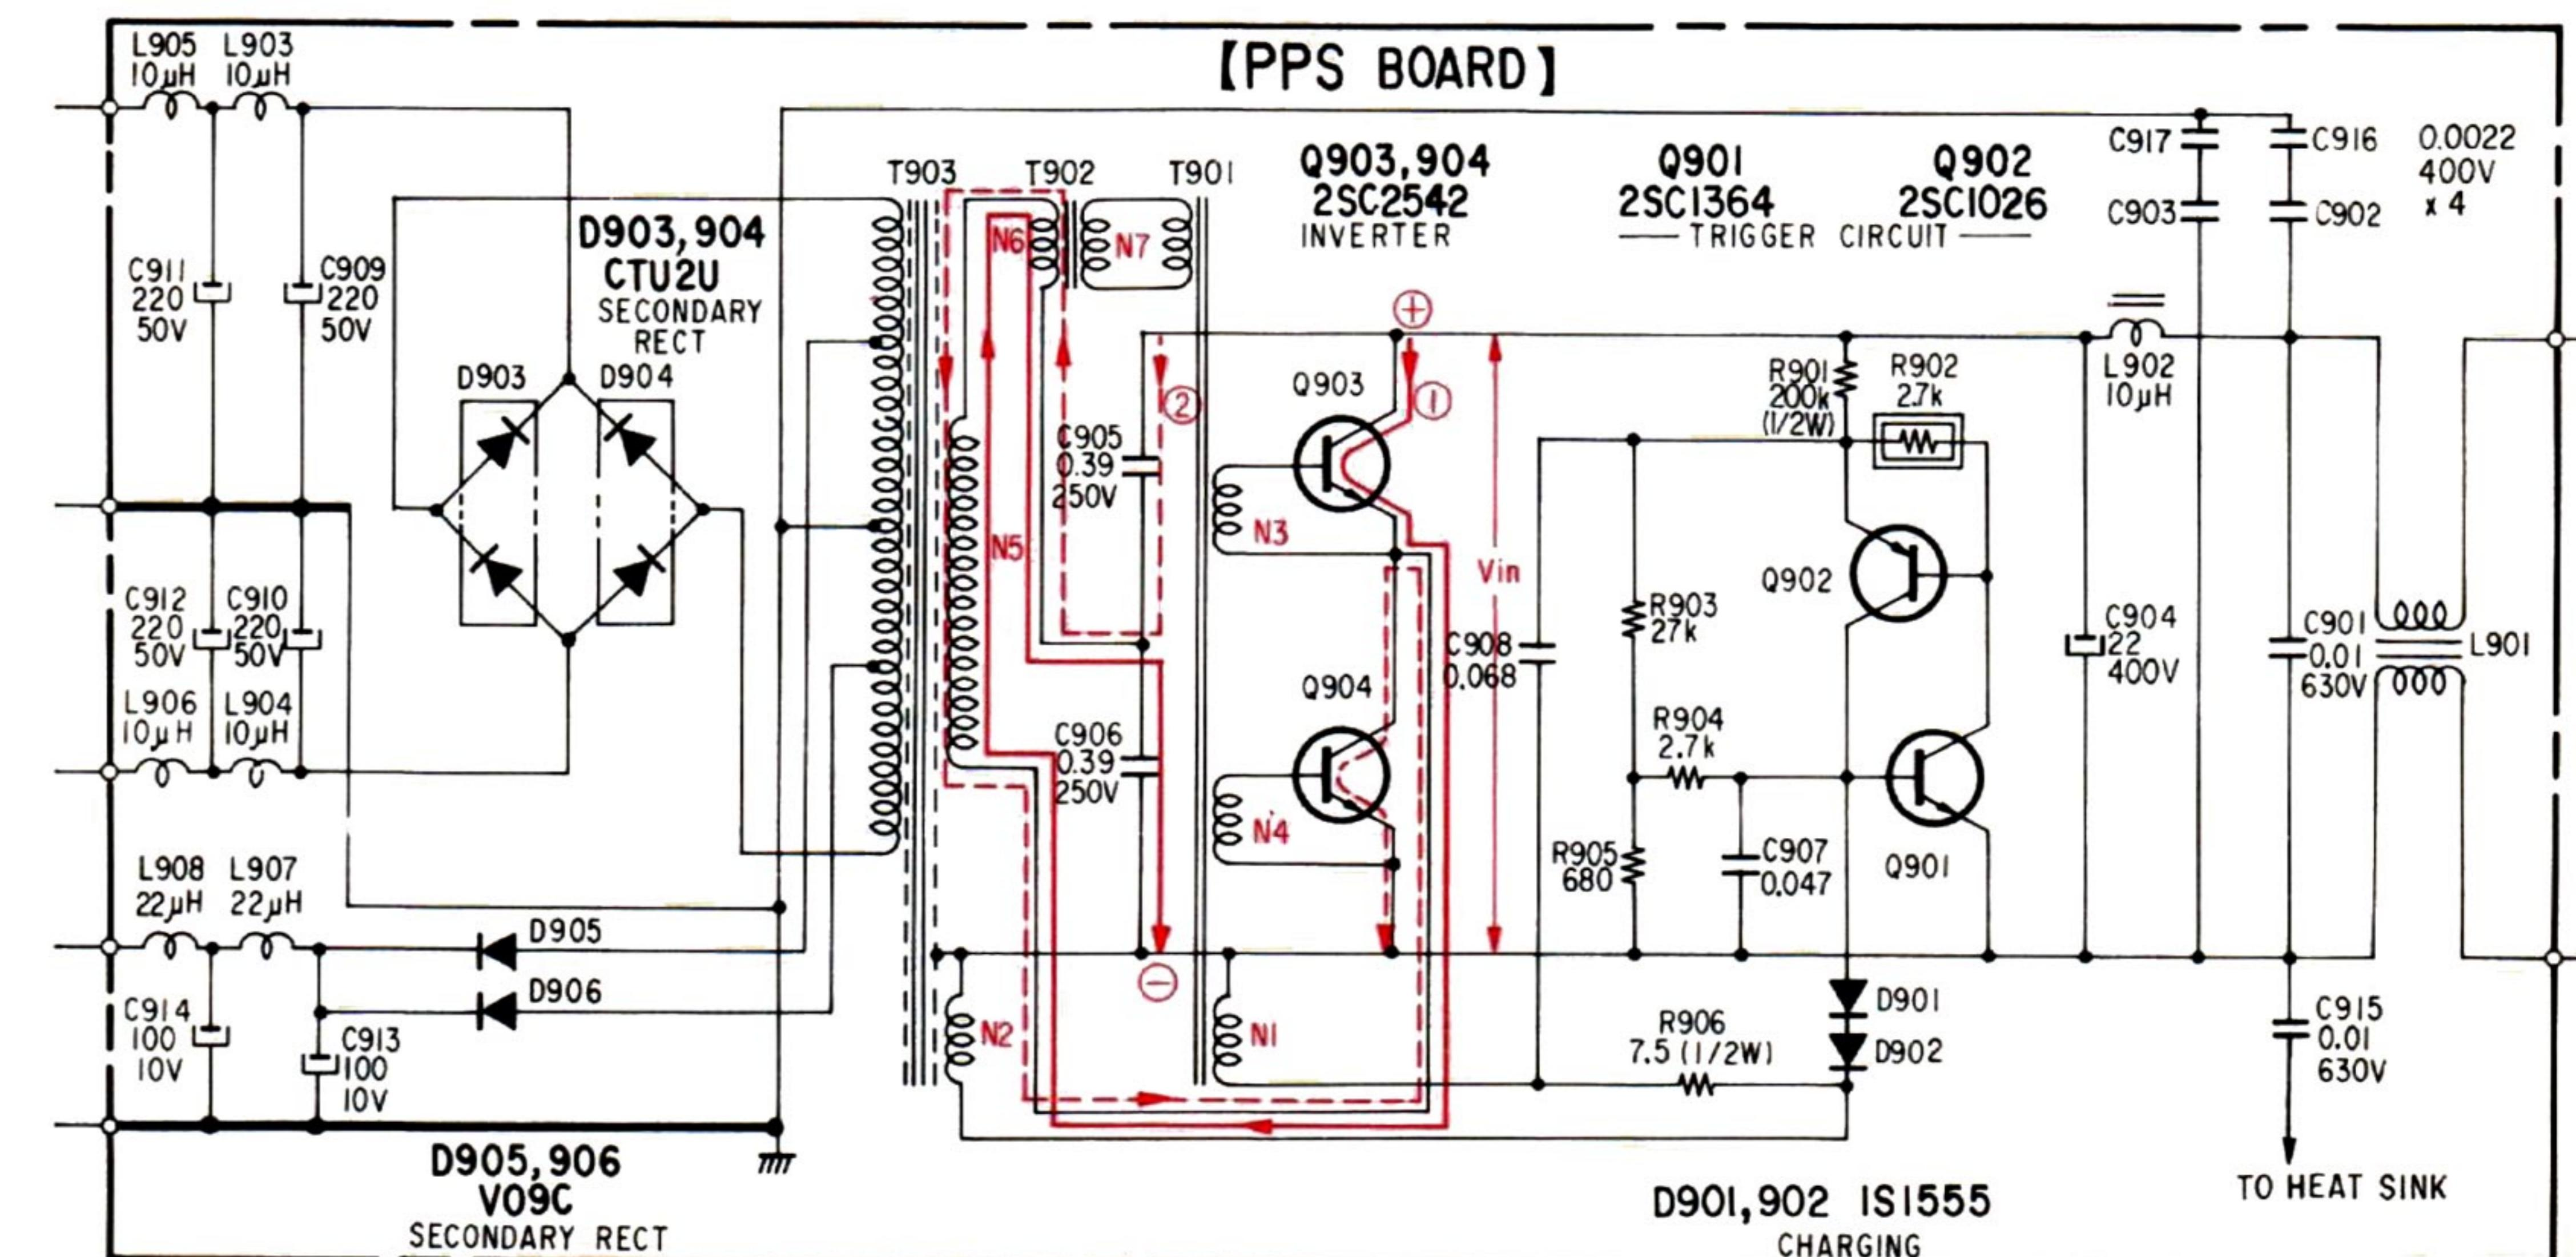

Fig. 5
The details are as follows (See Fig. 5).
- As a result, the current ② flows from the point \oplus to point \ominus through C905, transformer windings N6 and N5, and Q904.
- Thus a square-wave signal is obtained at the secondary winding of T903 as shown in Fig. 5 from the alternating turning on and off operation of Q903 and Q904.
1-2-5. SECONDARY RECTIFIER CIRCUIT (See Fig. 5)